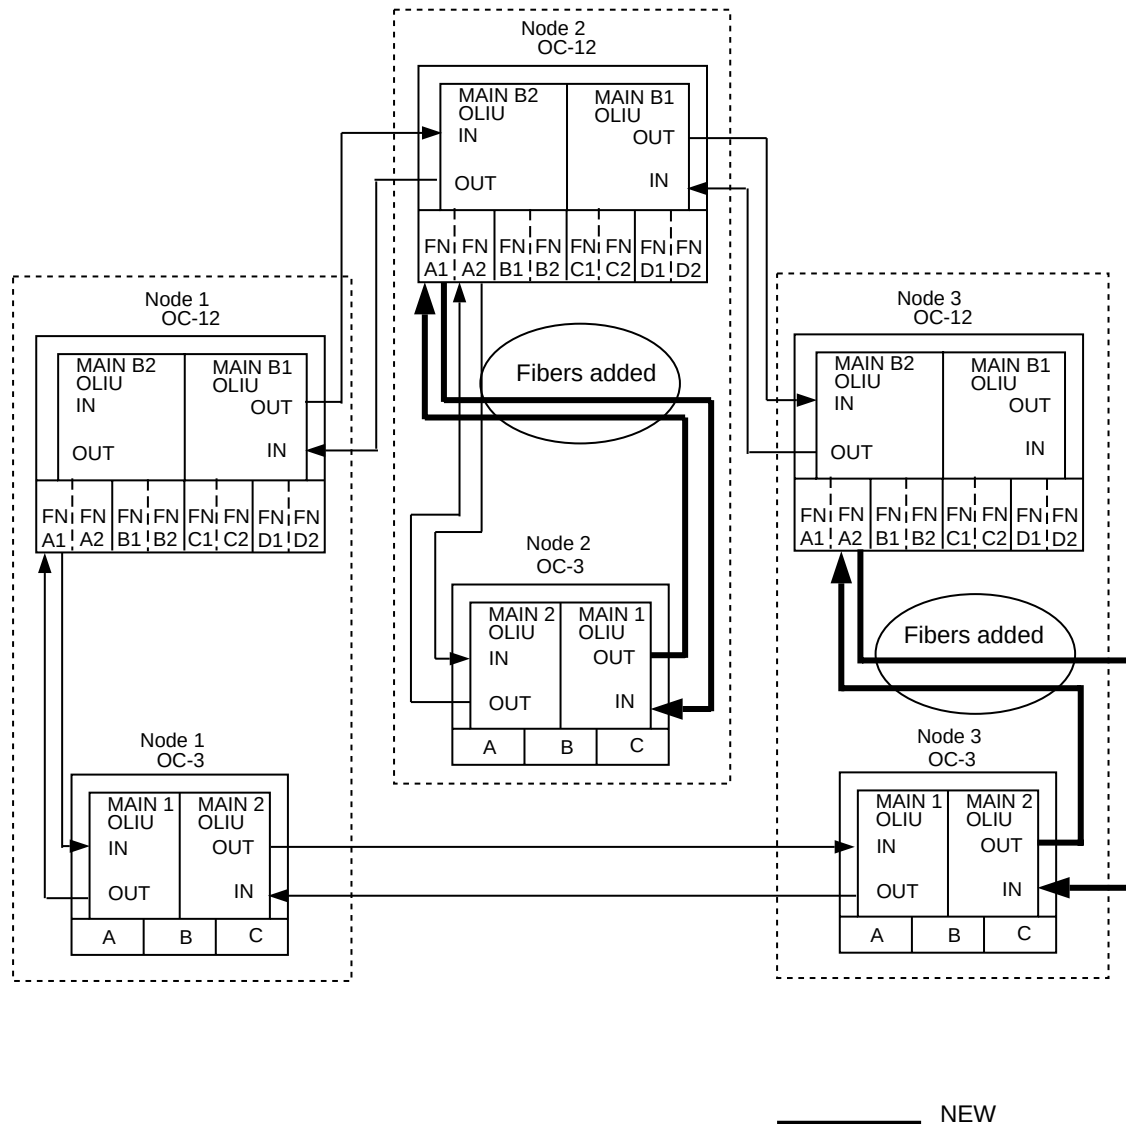

Figure 5. Example of OC-3 to OC-12 Ring Upgrade (5 of 7)
MAIN 1 slot to OC-12 **FN-()-1**. See Figure 5.
MAIN 2(P) slot to OC-12 **FN-()-2(P)**. See Figure 5.